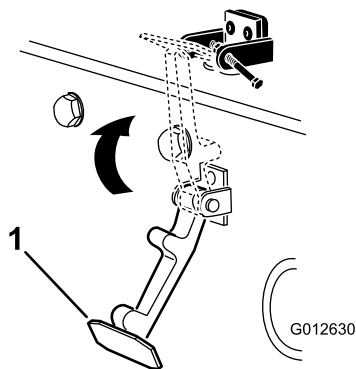

**Figure 6**
4. While aligning the mounting holes, position the CE lock bracket and the hood-latch bracket onto the hood (Figure 6).
6. Rivet the brackets and the washers to the hood (Figure 6).